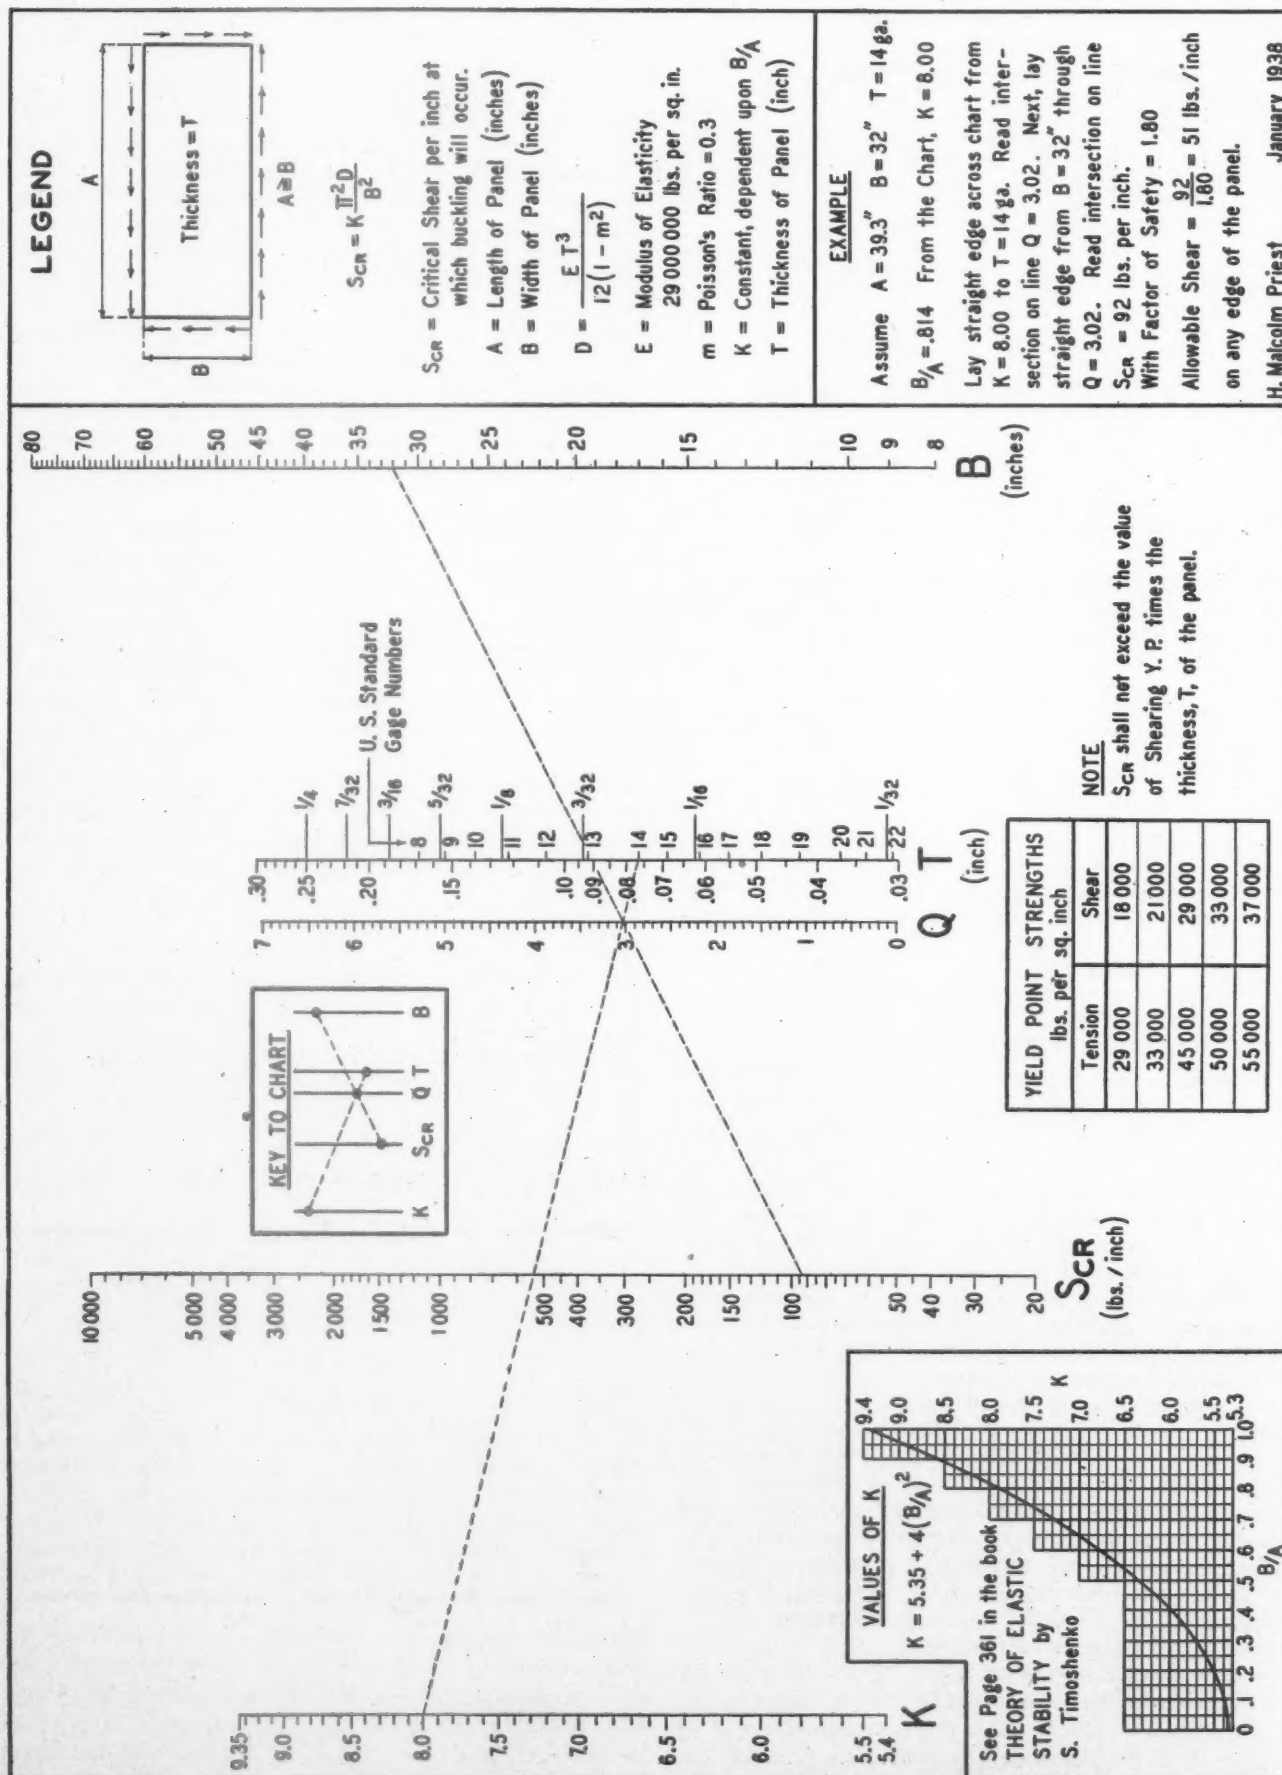

Fig. 16—Chart for shear buckling
at which buckling is imminent. The significance of the terms B , D , and T are those given in the chart for shear buckling in Fig. 16.
A nomographic chart for the ready solution of problems in shear buckling for panels with simply-supported edges is presented in Fig. 16 and is, in effect, a chart linking together the various factors in Formula (55). The example in the lower right-hand corner indicates clearly the manner of using the chart. It may be well to call attention to the fact that in a rectangular panel subjected to shear, the shear per inch is the same on all four sides. In any panel being studied by means of the chart, the shorter side is designated by the letter B , while A represents the longer side.
the value of B/A , which is $40.75 \div 112.75 = .361$. Either by the formula or diagram in the lower left-hand corner of Fig. 16 we obtain the value of $K = 5.87$.